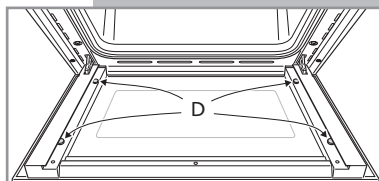

Fig. 25b
- Check the correct positioning of the no.4 (four) silicon rubbers **D** (fig. 25b).